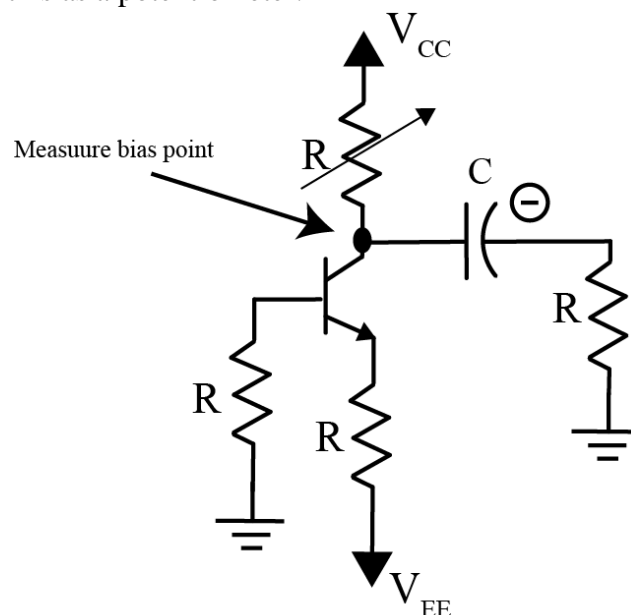

Figure 5: Biasing the transistor circuit.
2) Now we will build the circuit subsystem shown in Figure 5. Turn off the power while wiring, and then turn the power back on when you want to make measurements. Note that the collector is connected to the +9 volt source V_{CC} , the emitter is connected to the -9 volt source V_{EE} , the base is connected through a resistor to ground, and the collector is also connected through an electrolytic capacitor (note the negative sign!) in series with a resistor to ground. It is probably easiest to have the transistor straddle the middle of the breadboard. Note that the resistor connected to V_{CC} is a variable resistor (a potentiometer). Be sure to only connect one of the outer legs and the middle leg to use this as a potentiometer.
3) Connect a probe from scope channel DC2 to the measurement point as shown in Figure 5. Turn the power on, and measure the signal at the bias point. Be sure you are triggering off of channel DC1. Adjust the potentiometer so the bias point is approximately 4 volts. Do not go on until you get this correct!